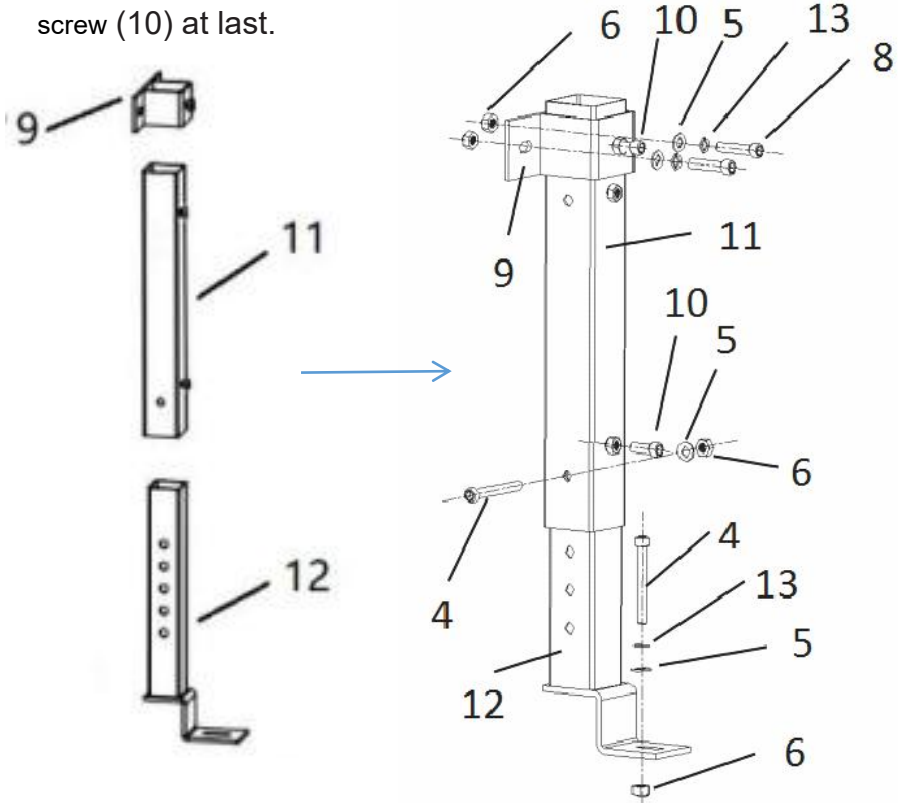

Figure2
Install the mounting bracket (9), extended bracket (11), and base bracket (12) on one side of the truck bed. Show as figure 2.
- A. Mark the 3 drill holes on truck rack for mounting bracket(9) and base bracket(12) and drill the holes
- B. Insert bolt (4)to extended bracket(11) and base bracket(12) ,Lock it with flat washer(5)and lock nut(6).
- C. The mounting bracket (9) slides over into the extended bracket(11) at suitable position and fix it with bolts (8), flat washer(5),spring washer(13), lock nut(6). tighten the Anti-float screw (10) at last.